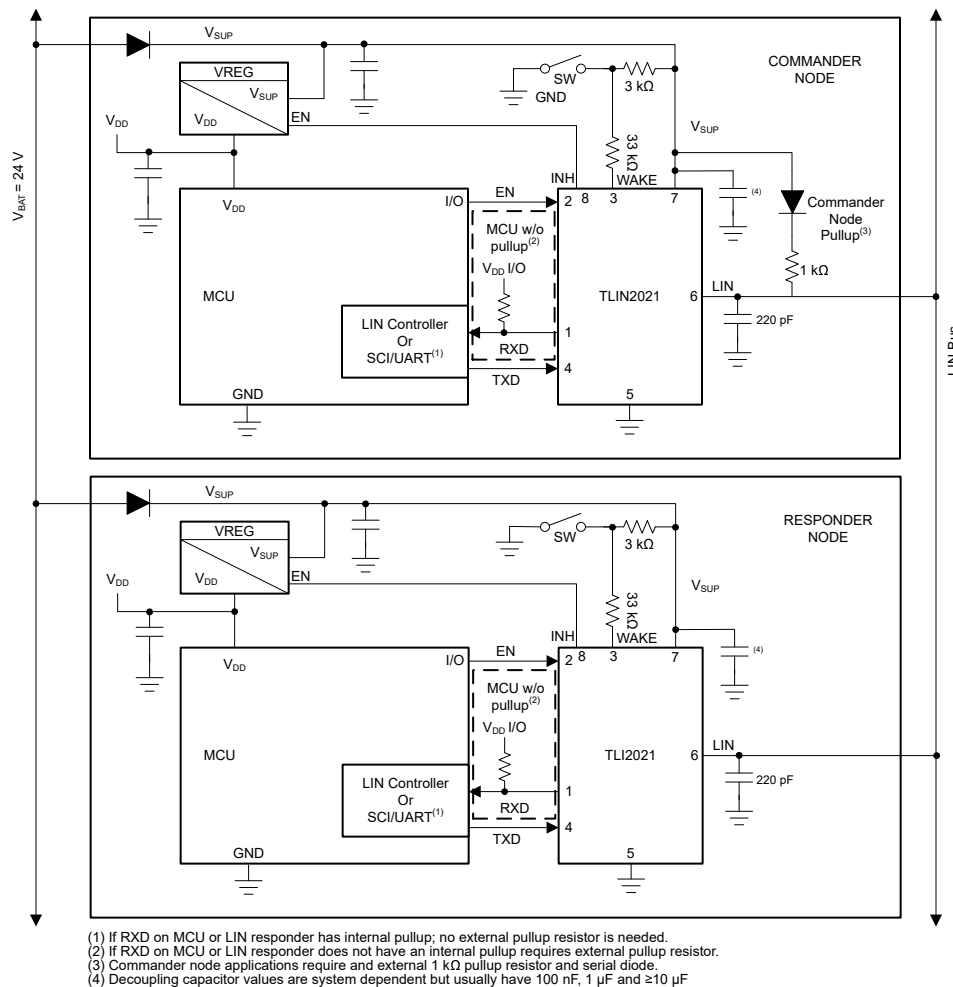

図 10-1. Typical LIN Bus
The device integrates a 45 kΩ pull-up resistor and series diode for responder applications. For commander applications, an external 1 kΩ pull-up resistor with series blocking diode can be used. 図 10-1 shows the device being used in both commander and responder applications.
- Pin 2 (EN):** EN is an input pin that is used to place the device in low-power sleep mode. If this feature is not used the pin should be connected to the supply voltage for the controller through a series resistor using a
- **Pin 6 (LIN):** The LIN pin connects to the TLIN2021-Q1 to the LIN bus. For responder applications a 220 pF capacitor to ground is implemented. For commander applications an additional series resistor and blocking diode should be placed between the LIN pin and the V_{SUP} pin, see Figure 10-1.